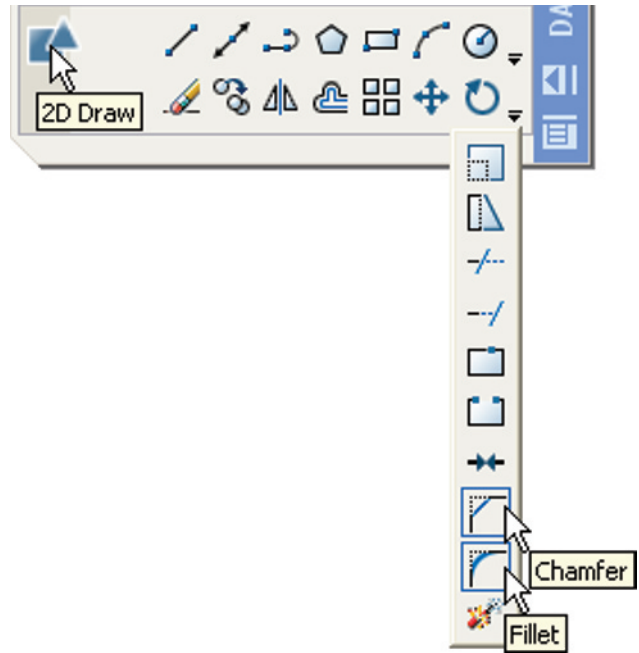

Fig. 13.25 The **Chamfer** and **Fillet** tools in the **2D Draw** control panel
The **Chamfer** and **Fillet** tools from the **2D Draw control panel** (Fig. 13.25), which are used to create chamfers and fillets in 2D drawings in AutoCAD 2008, can just as well be used when constructing 3D models.
3. Click the **Fillet** tool icon in the **2D Draw** control panel (Fig. 13.25). The command line shows:
4. Click the **Chamfer** tool icon in the **2D Draw** control panel (Fig. 13.25). The command line shows: